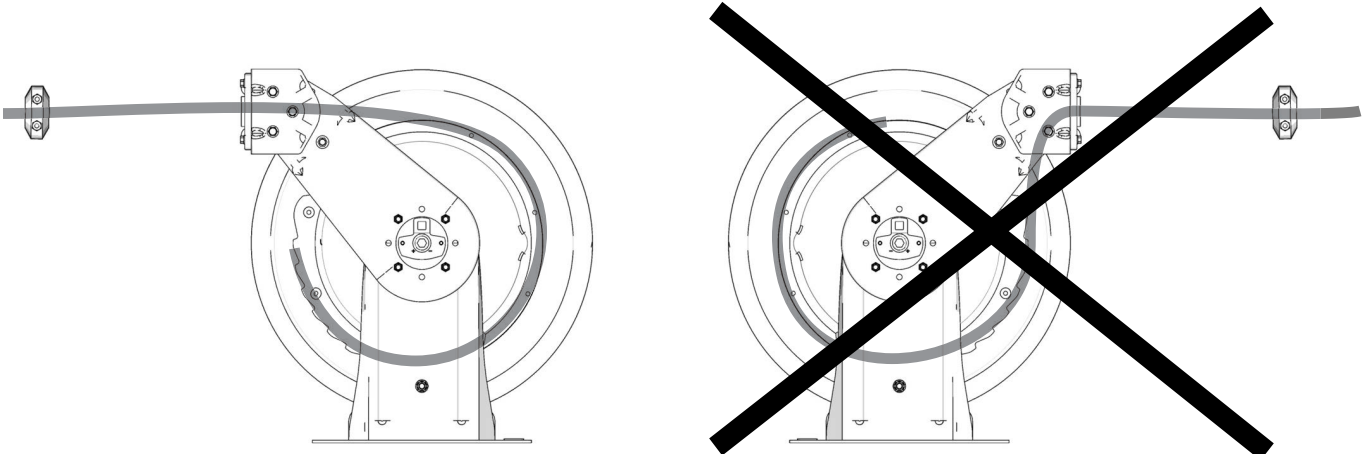

FIG. 2
**NOTE:** Reels perform best when arm allows hose to pull straight off the spool as shown in FIG. 2 and FIG. 3.